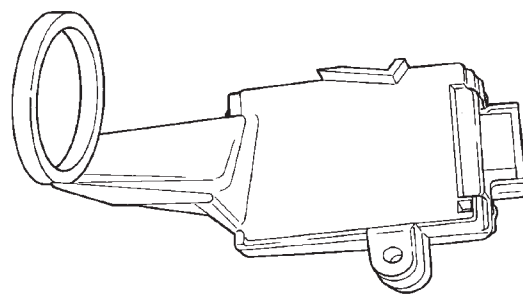

Fig. 2 Sentry Key Immobilizer Module
The Sentry Key Immobilizer Module (SKIM) (Fig. 2) contains a Radio Frequency (RF) transceiver and a central processing unit, which includes the Sentry Key Immobilizer System (SKIS) program logic. The SKIS programming enables the SKIM to program and retain in memory the codes of at least two, but no more than eight electronically coded Sentry Key transponders. The SKIS programming also enables the SKIM to communicate over the Programmable Communication Interface (PCI) bus network with the Powertrain Control Module (PCM), and/or the DRB scan tool.